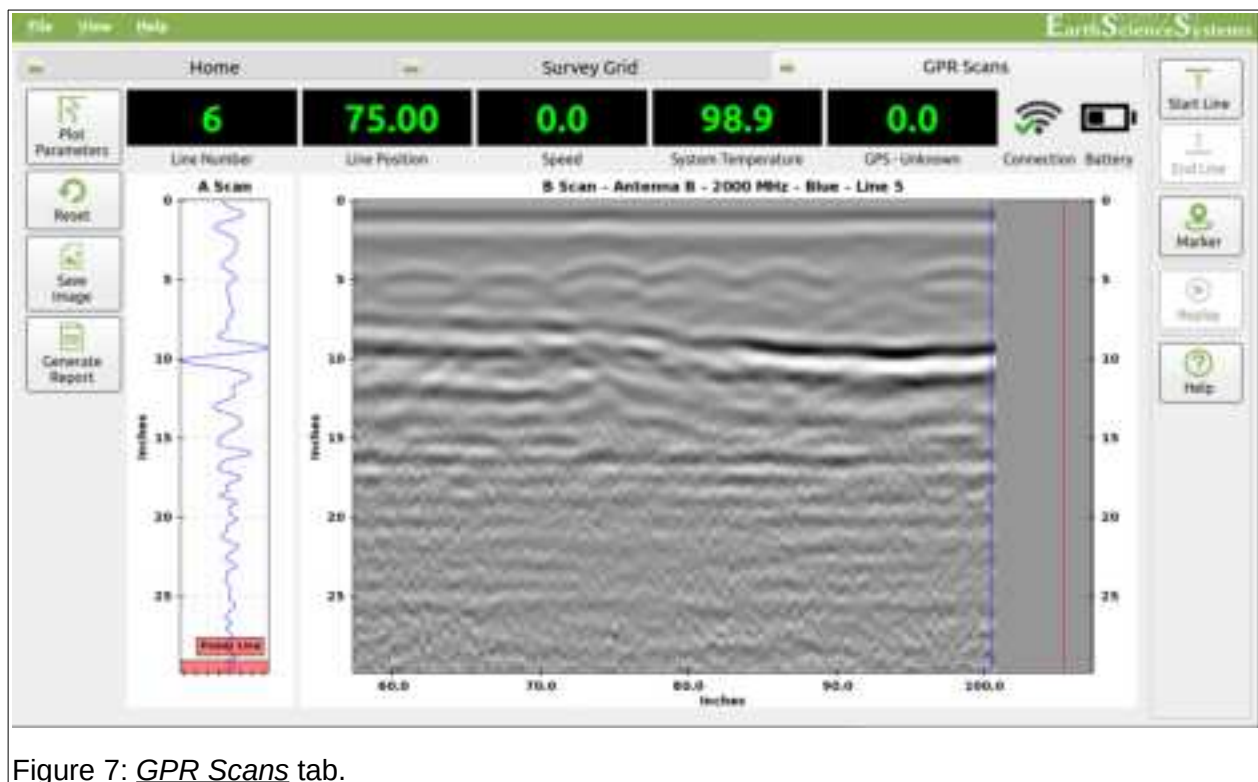

Figure 7: GPR Scans tab.
This tab is displayed (see Figure 7) by clicking the GPR Scans tab. The GPR Scans tab displays A-scan and B-scan plots that are useful for viewing GPR waveforms and ensuring proper system operation. Touch and drag to pan. Pinch with two fingers inward or outward to zoom out or in, respectively. Press the Reset button  to return to the default view. The plot parameters can be changed by pressing the Plot Parameters button  (see Figure 8). For
5. Start the data acquisition program by double tapping Surveyor Pro icon on the desktop. Press the Connect button to connect to the scanner. After a few seconds the program will display the GPR Scans tab and will start updating with data (see Figure 7). The green light on the scanner's power button will flash slowly when it is connected to the acquisition program on the tablet computer.
5. Start the data acquisition program by double tapping the Surveyor Pro icon on the desktop. Press the Connect button to connect to the scanner. After a few seconds the program will display the GPR Scans tab and will start updating with data (see Figure 7). The green light on the scanner's power button will flash slowly when it is connected to the acquisition program on the tablet computer.